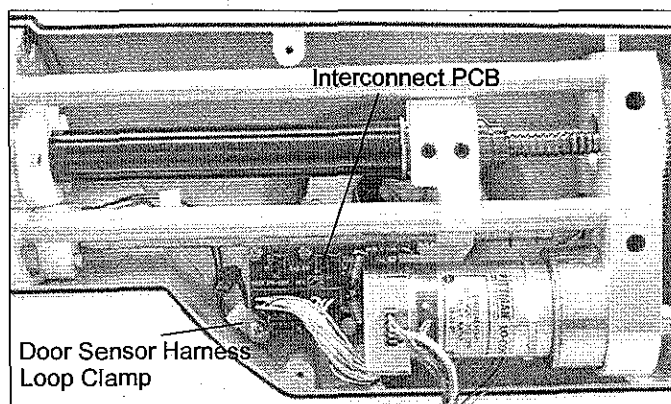

Figure 5-15a: Removing Connectors and Loop Clamp
3. Disconnect the following connectors from the Interconnect PCB (see Figure 5-15a):
4. Remove the Phillips screw from the lower left corner of the Interconnect PCB. The screw secures the Interconnect PCB and the Door Harness loop clamp to the Front Enclosure. Remove the lock washer and flat washer with the screw (see Figure 5-15a).